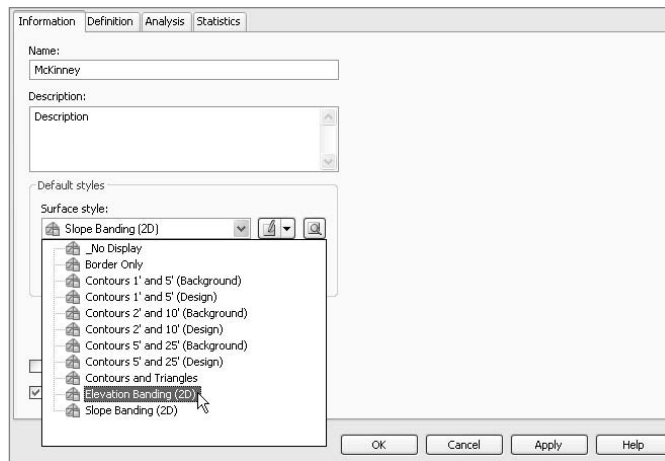

Figure 7.20
4. On the Information tab, click the Surface Style drop-down button and change the style to Elevation Banding (2D) as shown in Figure 7.20.